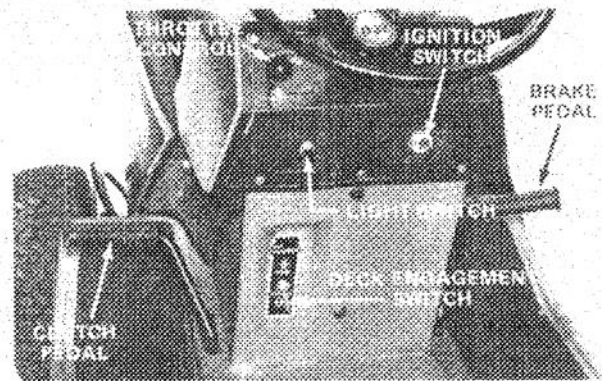
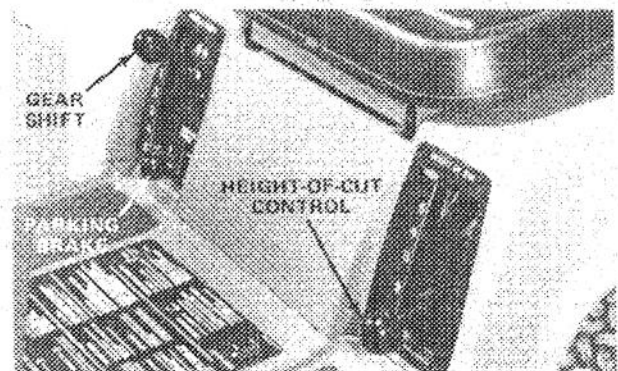

Figure 10
Figure 11
Clutch Pedal (Fig. 10) — Foot operated clutch pedal is used in conjunction with the gear shift. Clutch must be fully depressed when shifting gears so that friction drive plates are separated on clutch assembly.
Throttle Control (Fig. 10) — Throttle control connects to and operates carburetor mounted throttle and choke. Control has three positions: IDLE, FAST and CHOKE. The control must be pushed slightly to the right and forward to obtain CHOKE position.
Ignition Switch (Fig. 10) — Switch is part of battery ignition system, and it has three positions: OFF, ON and START. Key automatically returns to ON position from START position when released after engine starts.
Light Switch — (Fig. 10) — Two position switch for actuating headlights. Lights will not function unless engine is running as current is supplied by the engine alternator.
Deck Engagement Switch (Fig. 10) — Toggle switch (Pull out and up to engage) releases blade brake and engages electromagnetic clutch to drive cutter blade.
Brake Pedal (Fig. 10) Foot operated pedal, which when depressed, actuates a disc brake assembly at the side of the transmission. Clutch pedal should also be depressed while braking to achieve maximum brake effectiveness.
Parking Brake (Fig. 11) — Parking brake is used in conjunction with standard brake assembly. When brake pedal is depressed and parking brake lever is pulled upward, a latch plate secures the brake assembly in the engaged position preventing the machine from moving.
Gear Shift (Fig. 11) — Transmission has five forward speeds, neutral and reverse, and has an in-line shift pattern. An interlock switch, which prevents engine from being started when transmission is in gear, is mounted on the top of the transmission.
Height-of-Cut Control (Fig. 11) — Height-of-cut control varies the cutting height from 1 1/2 to 3 3/4 inches (38 to 91 mm) in five increments.
3. To release the parking brake, depress brake pedal (Fig. 10), and push parking brake lever (Fig. 11) down to return it to its disengaged position. Release brake pedal slowly.
1. Assure the deck engagement switch is in DISENGAGE position (Fig. 10).
2. Move height-of-cut control (Fig. 11) into desired setting.